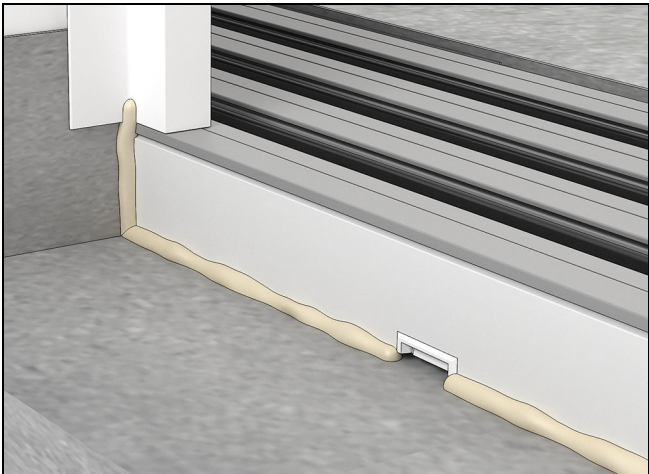

Figure 120
2. Seal the vertical end of the nosing where it meets the pocket or the jamb as well as the entire length of the nosing leaving gaps at the sill weeps. See Figure 120